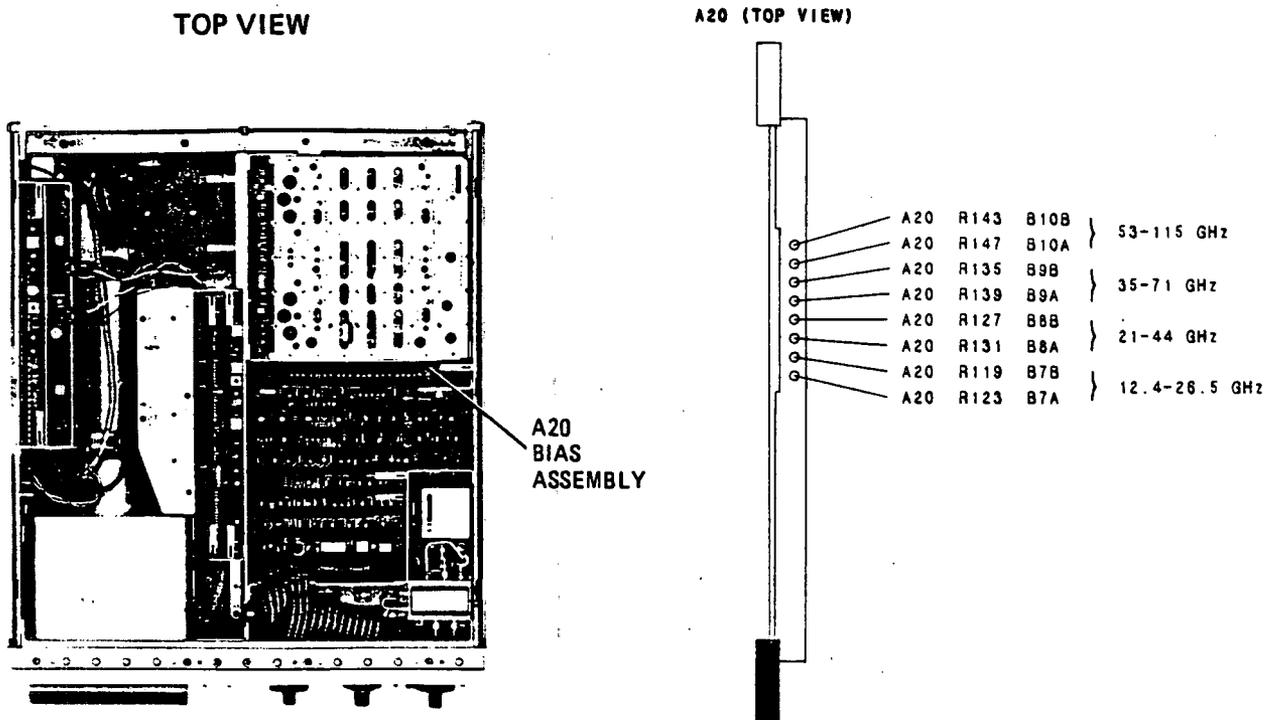

Figure 5-59 Adjustment Locations
8. Adjust B7A (A20R123) for trace at top graticule line. (See Figure 5-59 for location of adjustments)